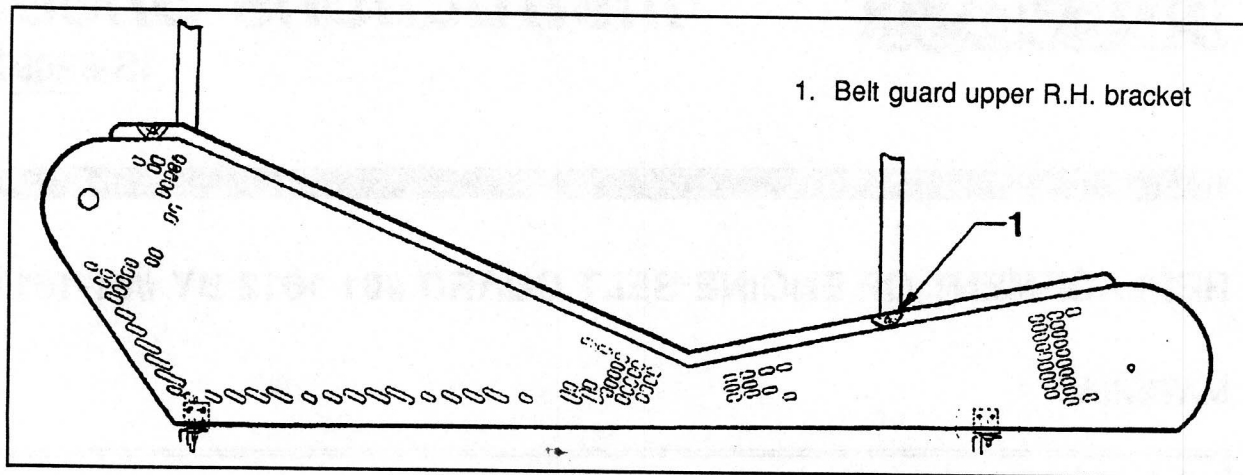

Fig. 1
4. Remove and keep rubber washer mounted on the belt guard upper R.H. bracket (see fig.1).